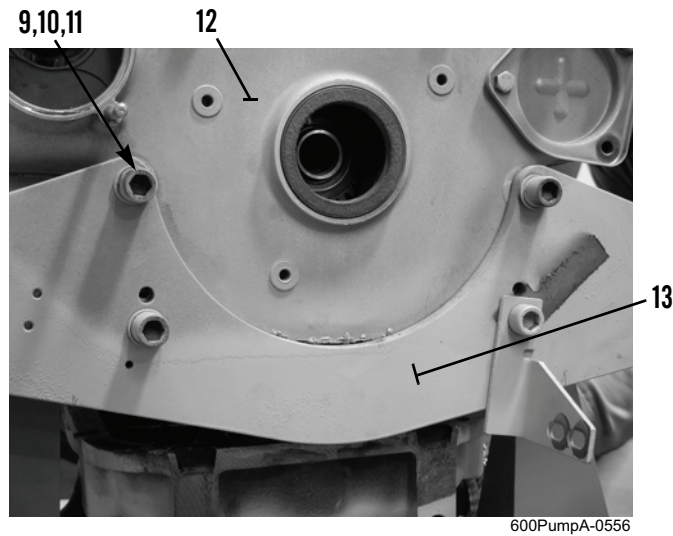

Figure 2. Engine Crossbeam.
3. Remove four bolts (Figure 2, Item 9), lockwashers (Figure 2, Item 10), and washers (Figure 2, Item 11) from engine crossbeam (Figure 2, Item 13) and engine front cover (Figure 2, Item 12). Discard lockwashers.